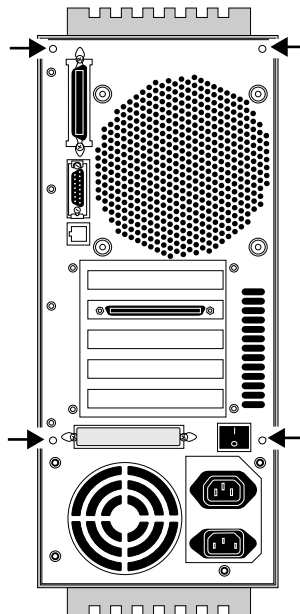

Figure 5-2 Fiery XJ BP100 back panel screw locations
2. ***Remove the four screws on the back of the Fiery XJ BP100 chassis (see Figure 5-2 on page 5-4).***
**4. Replace the four screws at the back of the Fiery XJ BP100 chassis (see Figure 5-2 on page 5-4).**